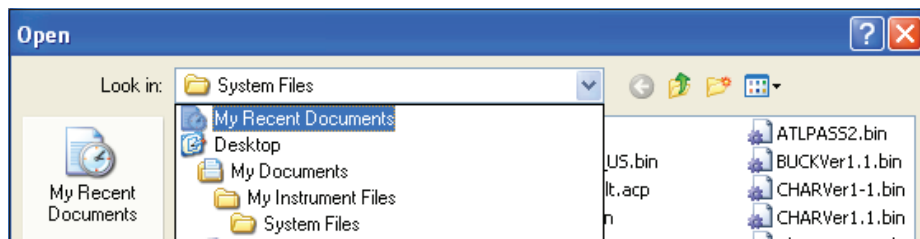

Figure 1: Open the System Files Directory
- A. Click on "File/Open" and go to the "My Documents\My Instrument Files\System Files" directory as shown in Figure 1 below.